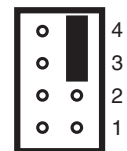

Figure 6: Jumper position to restore default baud rate
3. Install a jumper as shown in **Figure 6**.